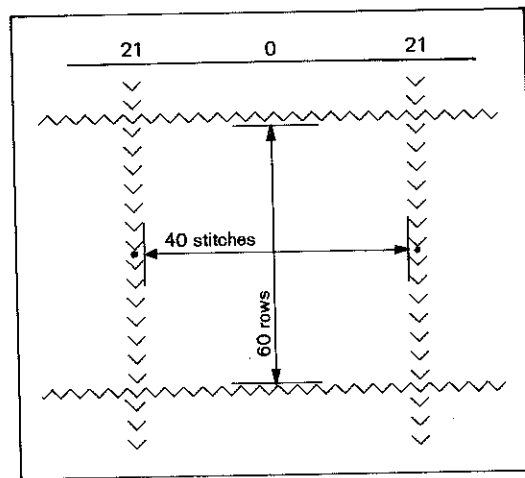

Fig. 6
- (5) a) Knit 30 rows with the yarn and the stitch pattern with which you are going to knit garment.
- (6) This swatch is in stretched condition right after it has been knitted and must be restored to its natural state in the following way.
- (7) When swatch restores its natural state, measure the length over 60 rows between vertically separated rows of contrast color yarn in centi and millimeters with Ruler. Then measure the width over 40 stitches between two marked Stitches as Shown in Fig. 6.